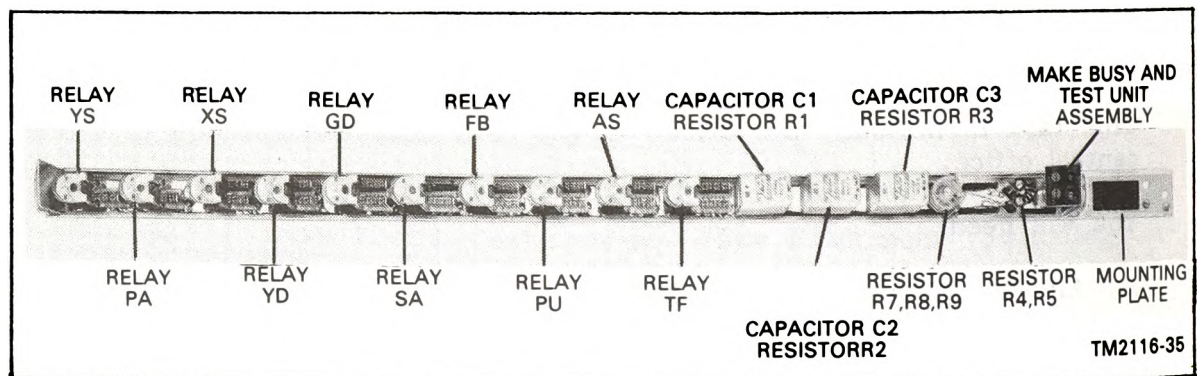

Figure 1. XY Dial Central Office Allotter Circuit Plate
3. Operate the allotter's busy switch on the make busy and test unit assembly (fig 1.)